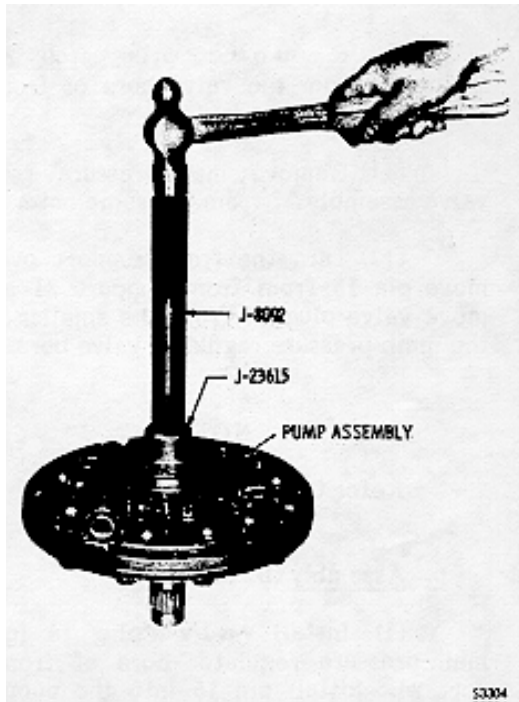

Fig. 6-30. Installing stator shaft rear bearing
(5) If roller bearing 23 was removed, press a new bearing into the end of shaft 19 until the outer edge of the bearing measures 0.595-0.615 in. (15.11-15.62 mm) from the end of the shaft. Press on the lettered end of the bearing with installer J-23615. Figure 6-30 illustrates installation of the roller bearing.